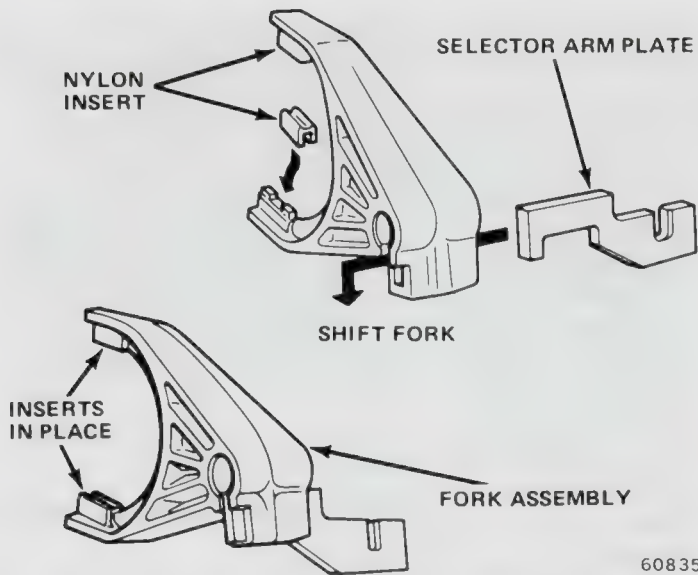

Fig. 2B-35 Assembling Shift Forks and Selector Arm Plates
(1) Install nylon inserts and selector arm plates in shift forks (fig. 2B-35).
(2) Install shift rail plug. Coat edges of plug with sealer before installing.
(3) Coat shift rail and shift rail bores with petroleum jelly and insert shift rail in cover. Install rail until end of rail is flush with inside edge of cover.
(4) Position first-second shift fork in cover with fork offset facing rear of cover and push shift rail through fork.